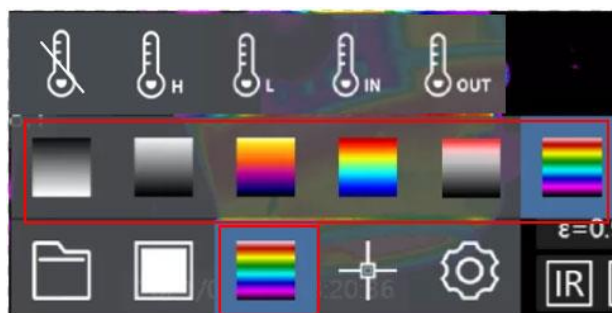

Figure 4.8 Color Palette switching
Step 2: Touch or click the physical button to switch to the third function icon from the left of the main menu and press the physical "OK" key to call up the fake color menu (as shown in Figure 4.8);